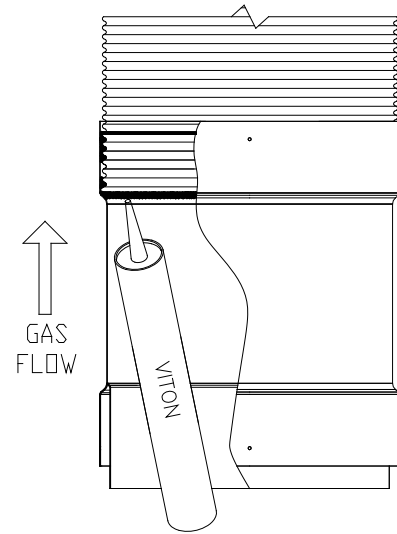

Figure 19-DuraSeal Flex assembly
- 2.2. Push the adapter on the liner all the way in, until you can't see the mark made on the flexible liner earlier (Figure 19). Make sure that the Viton® caulking is sealed well at the joint inside the adapter by verifying inside the adaptor.